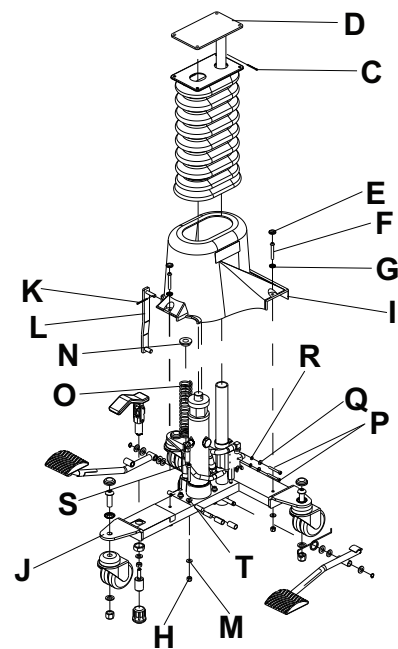

Figure 2 – Base
2. Using needle nose pliers, remove the cotter pin (C) that secures the mounting plate weldment (D) to the jack shaft (Figure 2). Remove the mounting plate weldment.